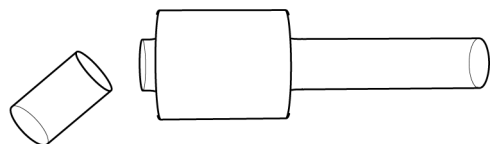

Figure 1: Cutting the Sep Pak to size
- Cut off the exit tube of the C18 Sep-Pack chromatography cartridge (see Figure 1).